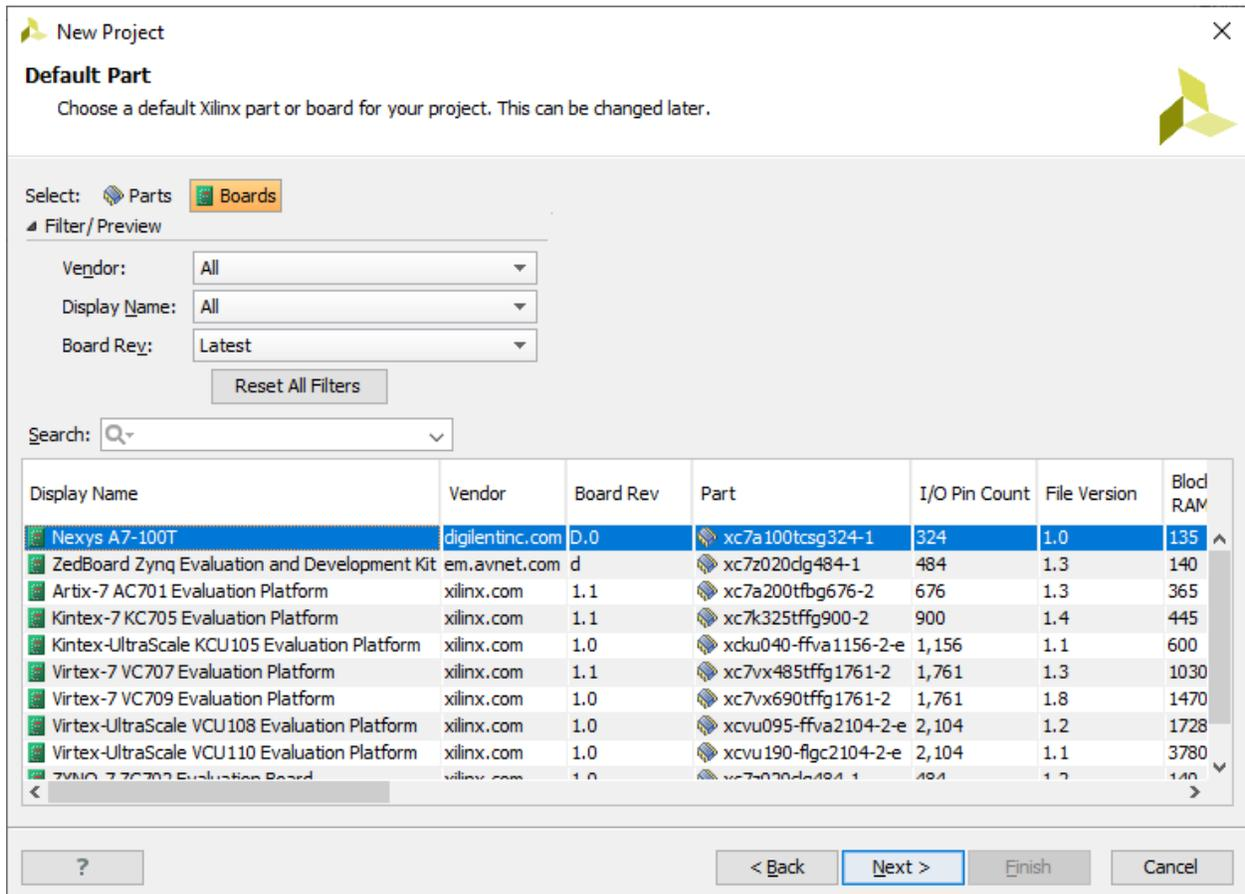

Figure 1: Selecting the Nexys A7-100T board.
- Next, select the board, using the window shown in figure 1. Select the Boards option at the top, then choose the Nexys A7-100T, board revision D.0, from the list. You can enter Nexys in the Search box to narrow your options.